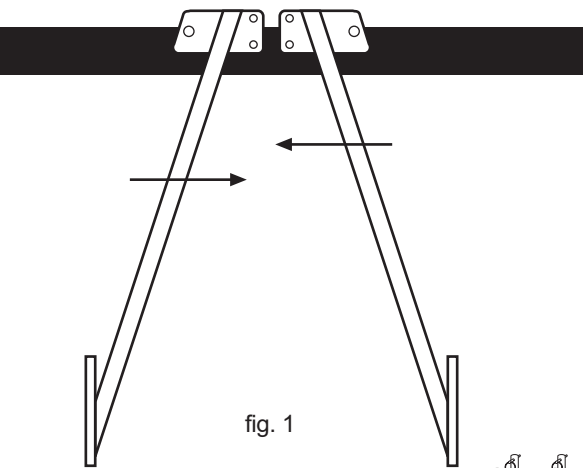
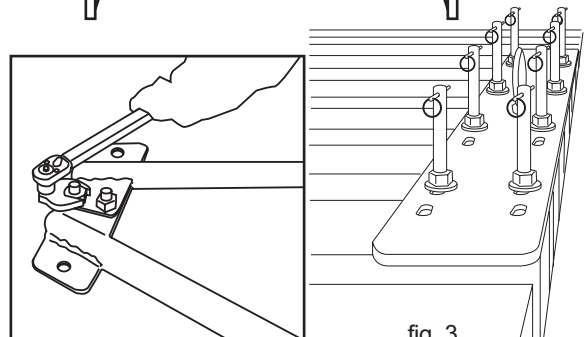

fig. 1
fig. 2
1. Select a safe location for the assembly of the MSA Wingspan HLL Stanchion. Using two opposing legs, align the two bolt holes at the top of the legs to create an A-frame structure (fig. 1). Connect the two stanchion bracket legs together by inserting the provided nut and bolt into the aligned holes. The bolts used for the connection must be torqued to 50 ft/lbs (fig. 2).